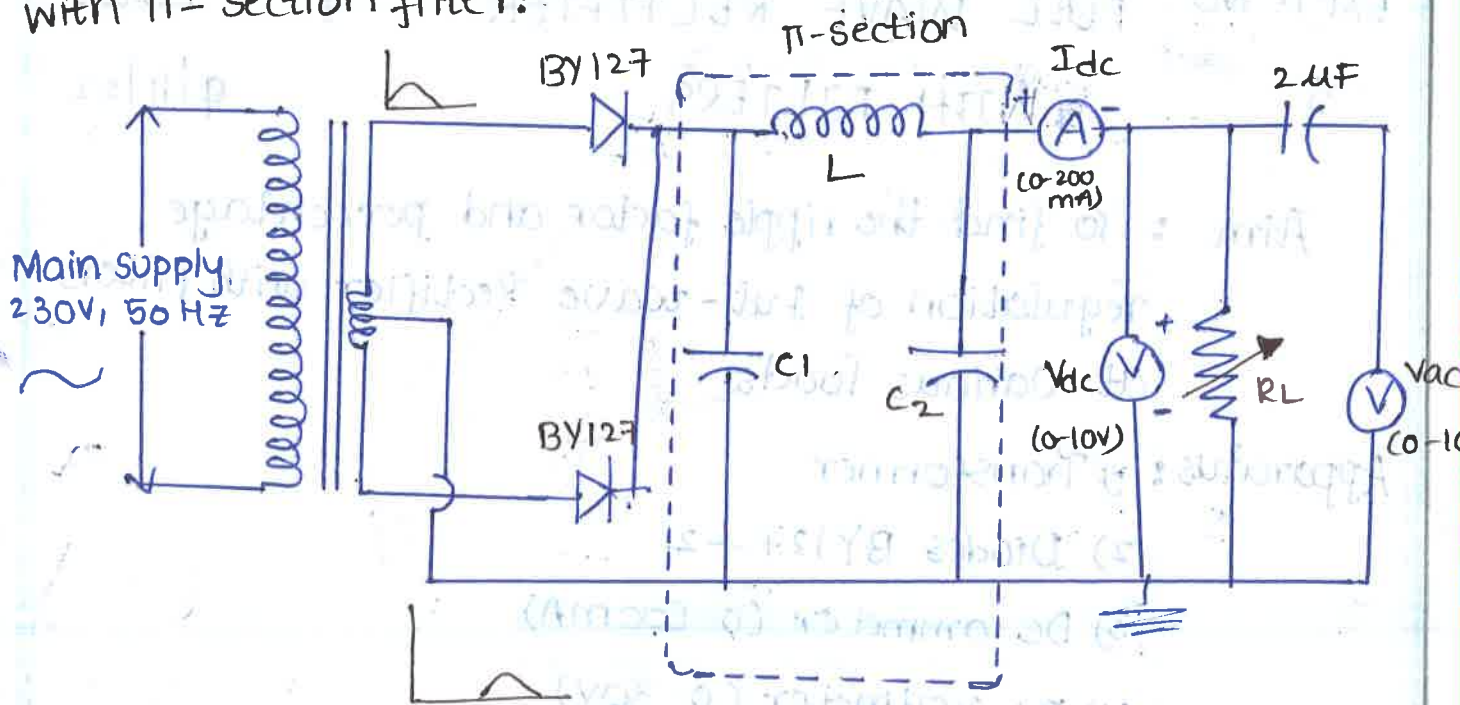

Figure 1: circuit diagram of Full-wave Rectifier with π -Section filter
- 1) Make the connections as per the circuit diagram of fig. 1